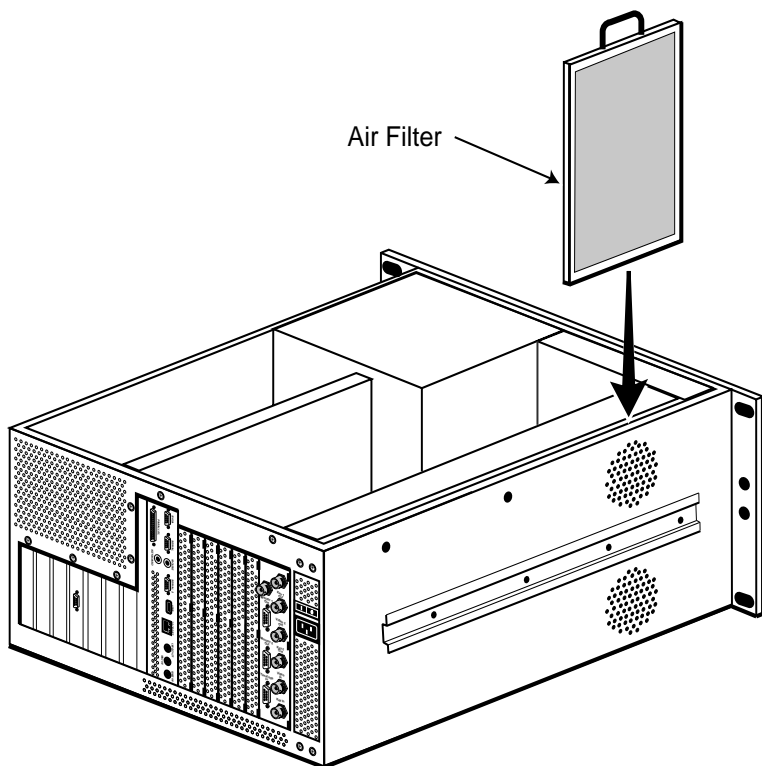

Figure 4-9. Installing Chassis Air Filter
- [] 3. Refer to Figure 4-9. Insert the mesh Air Filter and slide it down until its top edge is flush with the top of the chassis wall.